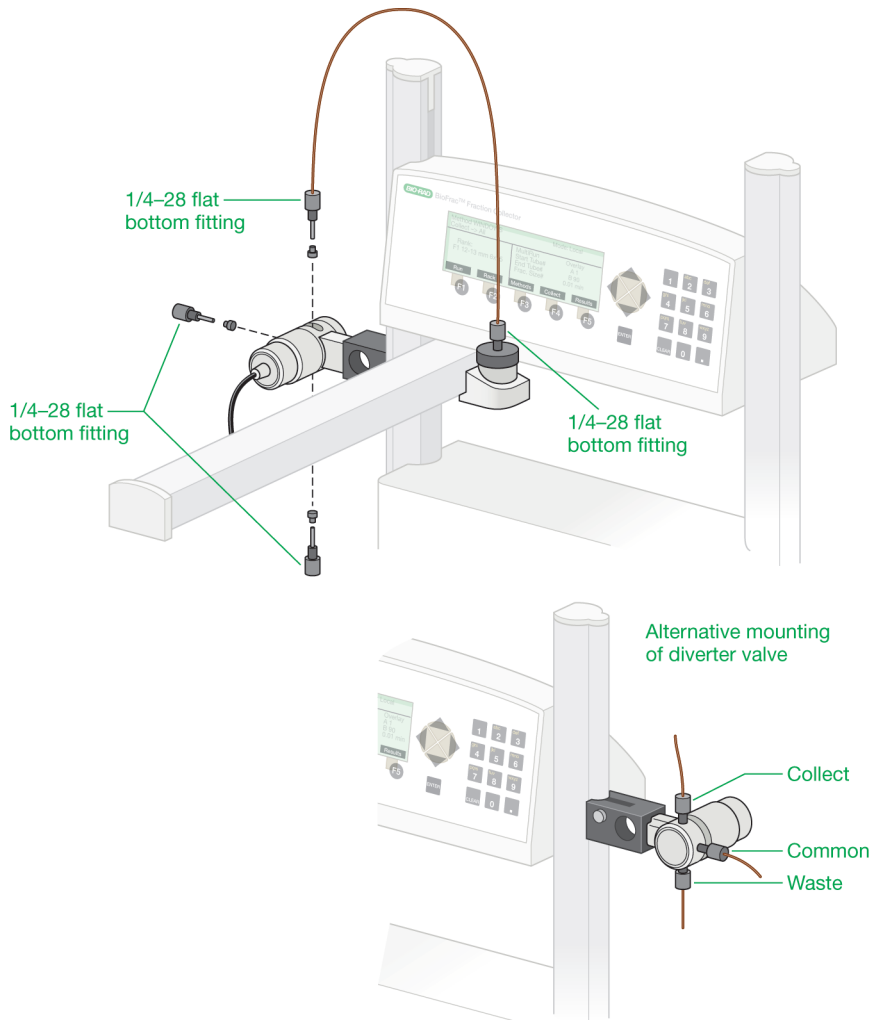

Fig. 6. Plumbing the BioFrac fraction collector.
4. Attach the diverter valve to either the right or left column. The diverter valve should be attached so that the Collect port is pointed up and Waste port is pointing down (see Figure 6 on page 14.) Use the included hex key to secure the diverter valve to the column.